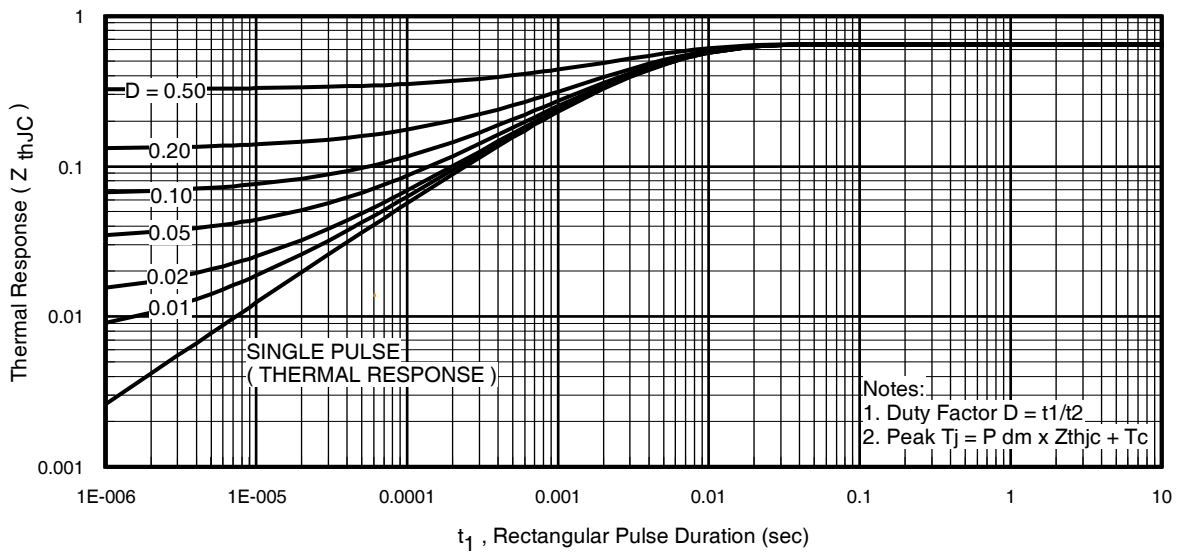

Fig 11. Maximum Effective Transient Thermal Impedance, Junction-to-Case
- ① Repetitive rating; pulse width limited by max. junction temperature. (See fig. 11).
- ② Limited by T_{Jmax} , starting $T_J = 25^\circ\text{C}$, $L = 0.10mH$
$Z_{thJC}(D, t_{av})$ = Transient thermal resistance, see figure 11)